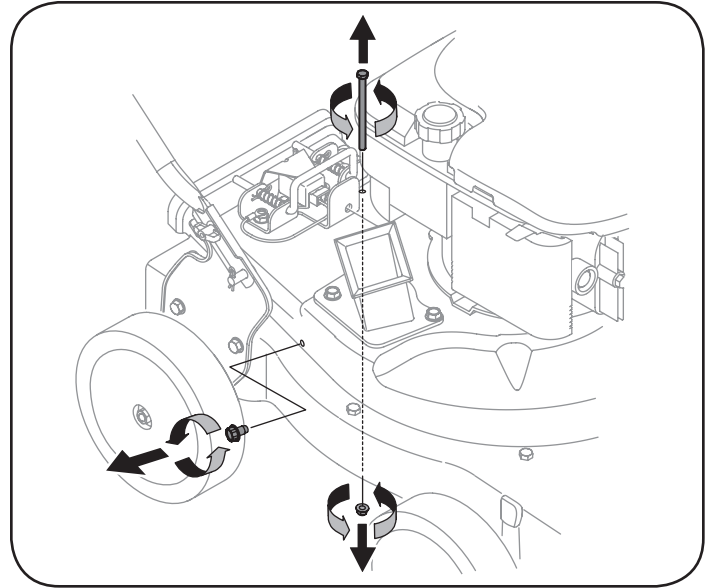

Figure 14
4. Remove self tapping screw on right side of unit that attaches to the flail screen. See Figure 14.
5. Remove hex screw on top of rear housing near mounting bracket and the flange lock nut that secures flail screen. See Figure 14.